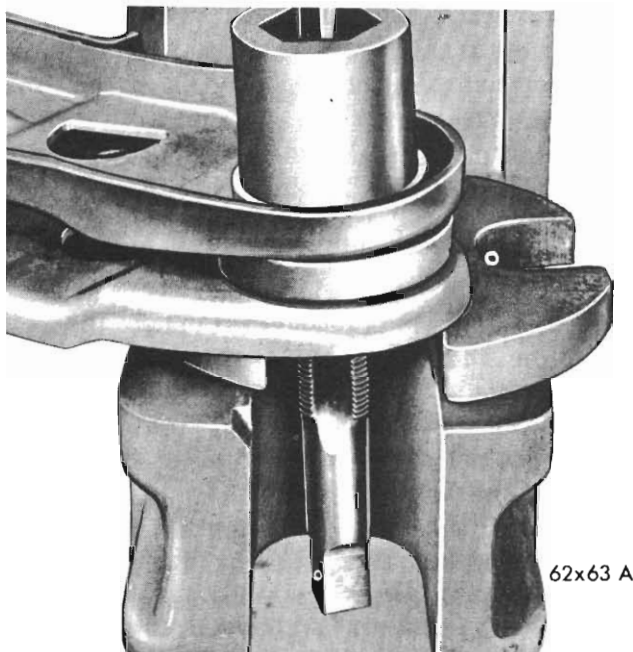

Fig. 10 - Removing bushing shell from control arm
(1) Place the strut portion of the lower control arm assembly in a vice and remove the nut from the strut.
(2) Remove the strut from the lower control arm.
(3) Remove the jounce bumper from the lower control arm.
(4) Remove the torsion bar adjusting bolt and swivel.
(5) Place the lower control arm assembly in an arbor press with the torsion bar hex opening up, supported at outer edge of arm (Fig. 10).
(6) Place a brass drift into the hex opening and press the shaft out of the lower control arm. The bushing inner shell will remain on the shaft.
(7) Cut and remove the rubber portion of the bushing from the control arm shaft.
(8) Insert a 1 $\frac{3}{8}$ " N.F. 12 T.P.I. tap into the pivot shaft bushing outer shell, approximately one half the depth of the bushing.
(9) Using a hand press and a blunt drift, force the bushing out of the control arm (Fig. 10).
(10) Remove the bushing shell from the tap.
(11) Remove the bushing inner shell from the pivot shaft, cutting off if necessary.